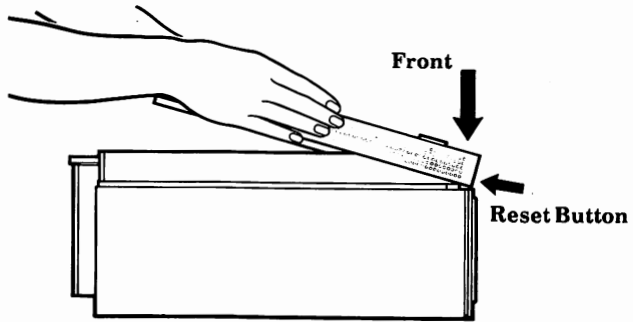

Figure 2-9. Replace the bottom cover.
- Position the front of the cover over the **RESET** button **CAREFULLY** to avoid damaging it. See Fig. 2-9.